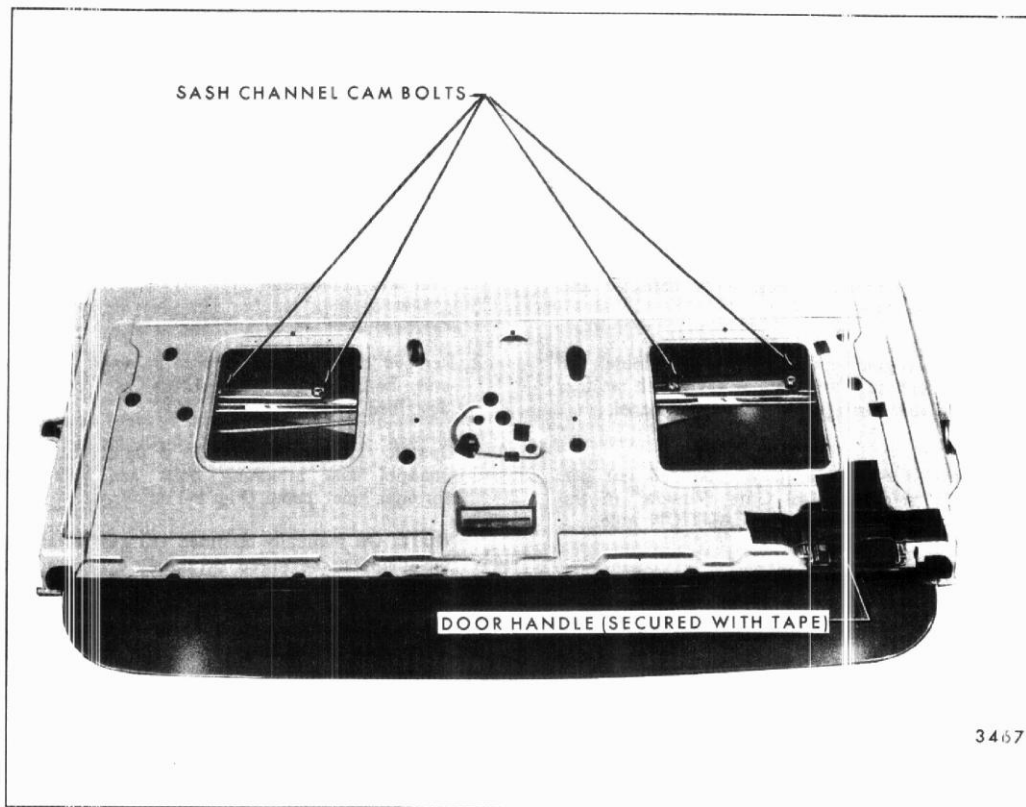

Fig. 9-13-Dual Acting Tail Gate Window Removal
3. Operate tail gate window to a point that sash channel cam attaching bolts are accessible through inner panel (Fig. 9-13).
4. Remove right and left cam attaching bolts (Fig. 9-13). Slide cams free of regulator lift arm rollers and remove cams from tail gate.